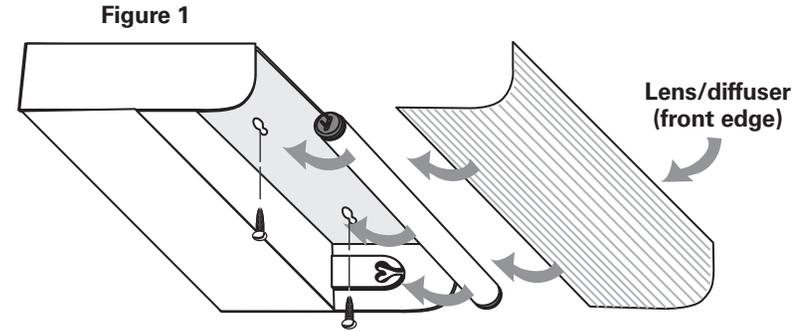

Figure 2
- 8) Drive the screws provided in the mounting hardware into the mounting surface until approximately 1/8" of space remains under the head of the screw. See Figure 2.